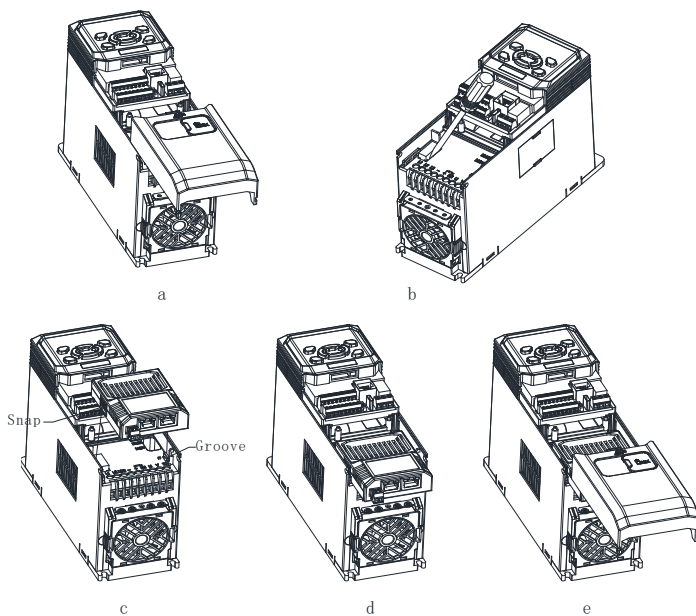

Fig. 2-4 Position 2 - Communication option/IO option installation steps
- (1) When the drive is powered off, press the granulated part on the middle-upper of the lower cover, slide it down firmly to take down the cover, as shown in Fig. 2-4 a.
- (2) Use a straight screwdriver to pry open the dustproof cap, as shown in Fig. 2-4 b.
- (3) Install the PN option: hold the expansion box (a bus card inside) upwards (indicators up), then align the expansion box with the electrical bus interface of position 2, and press down horizontally to buckle the spring snap of the expansion box into the groove at the lower part of the drive, as shown in Fig. 2-4 c and d.
- (4) The bus card is successfully installed, as shown in Fig. 2-4 e.